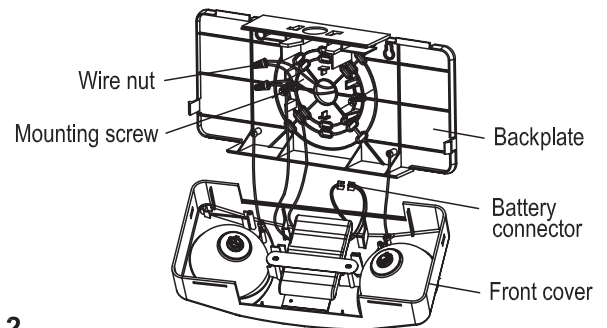

Fig 2
Wall Mount - Back Power Feed (see Fig 2)
7. Plug male battery connector into female battery connector on PCBA. (See Fig 2)